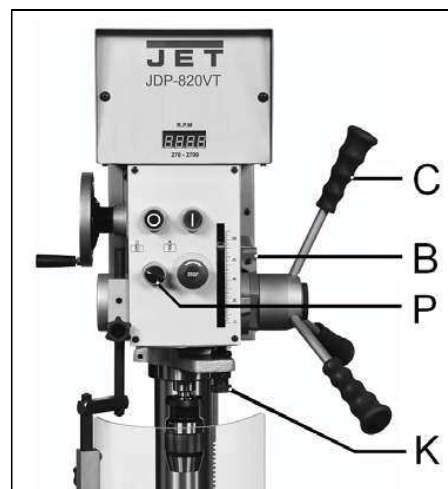

Fig 5
To drill multiple holes at the same preset depth, use the depth stop (K, Fig 5)Fig 5.
- 1) Set the select switch (P, Fig 5) to the "Tapping" position.
- 2) Set the depth stop (K) to the desired position.